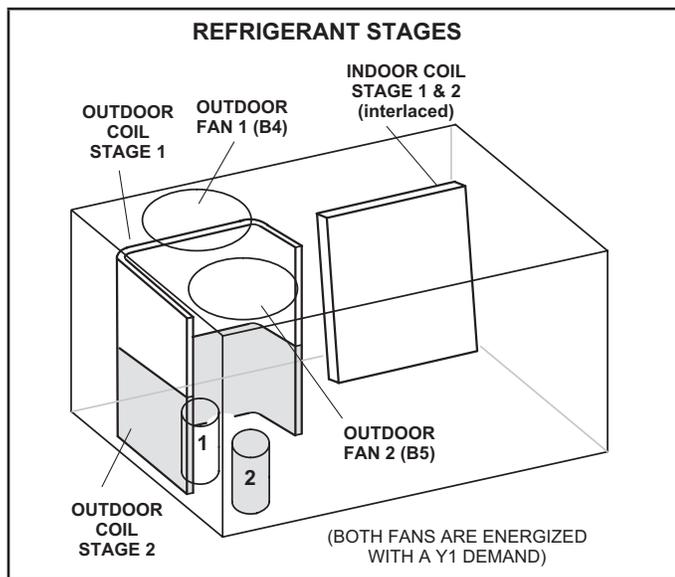

FIGURE 14
- 3 - Units contain two refrigerant circuits or stages. See FIGURE 14.